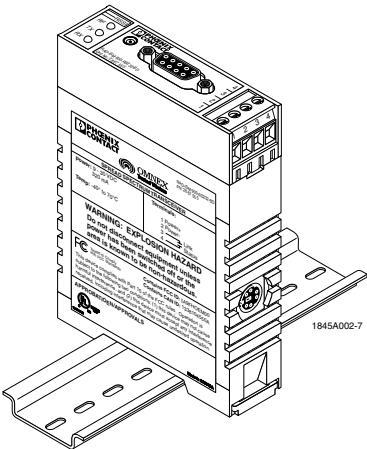

Figure 1-1. RAD-ISM-900-RS232-BD Data Radio
1.2.1 RAD-ISM-900-RS232-BD (See Figure 1-1)